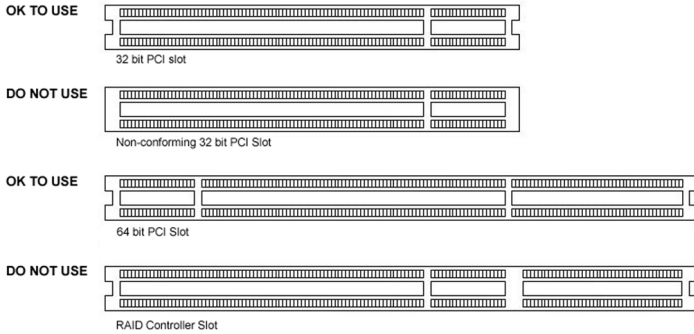

Figure 8: PCI and RAID Controller Slots
The BarcoMed 2MP2CP display controller may be installed in either a 32-bit or 64-bit slot with no loss of functionality. Figure 8 on page 37 illustrates the types of slots so that you can correctly identify which one to use for the BarcoMed 2MP2CP display controller and which ones not to use.
4. Install the BarcoMed 2MP2CP display controller into a free PCI slot, either 32-bit or 64-bit (see figure 8 above, for examples of slots). Be sure that the display controller is seated firmly in the slot.